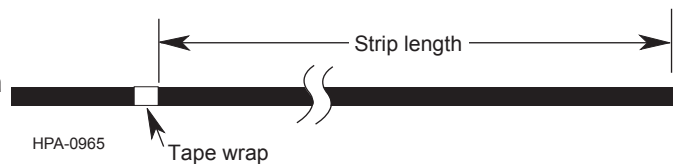

Figure 1
Step 1: Determine the proper sheath removal length for the hardware being used. Mark a point at this distance from the end of the cable with a wrap of tape (Figure 1).